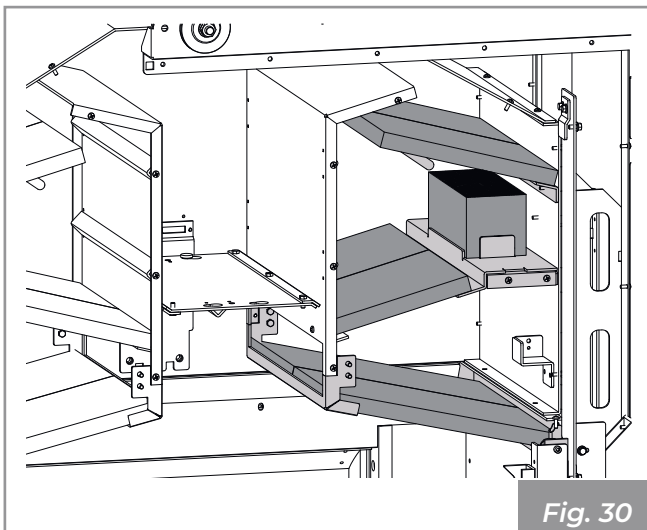

Fig. 30
- 6) Proceed in the same way on the opposite side (Fig. 30).